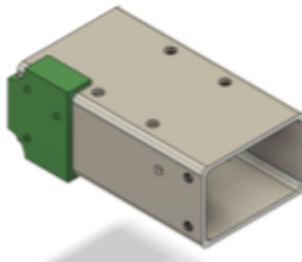

Figure 9.3
9. Position Assembly Tool #9 on the front face of the bottom Z-Axis roller beam with the number on the printed part facing the beam and all tabs securely holding position as shown in Figure 9.3.